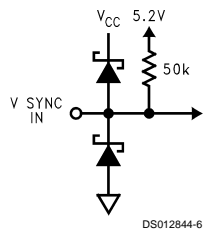

FIGURE 6.
**Pin 8 — V SYNC IN:** This pin accepts AC-coupled V sync of either polarity. The pin is internally biased at 5.2V; its input resistance is approximately 50 kΩ. For best noise immunity, a resistor of 2 kΩ or less should be connected from the input side of the coupling cap to pin 21 (GND) via a short path. See Figure 6 for the input schematic.